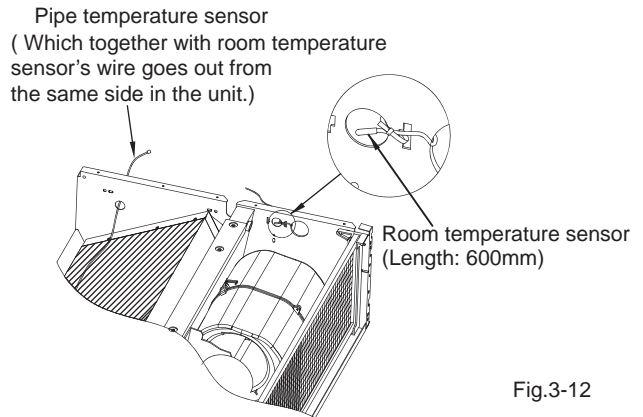

Fig.3-12
- Inside temperature controller ( Fig.3-12)
- 2) Fixing install the room temperature sensor (length: 600mm) at air return orifice by cable clips and lead the sensor wire through out the wire hole. (showed as the Fig.3-12)